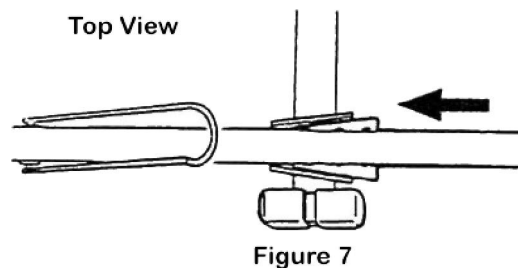

Figure 7
- a. Slide the tapered plates on the crossarms into the tapered sockets on the cradle. (Figure 7)